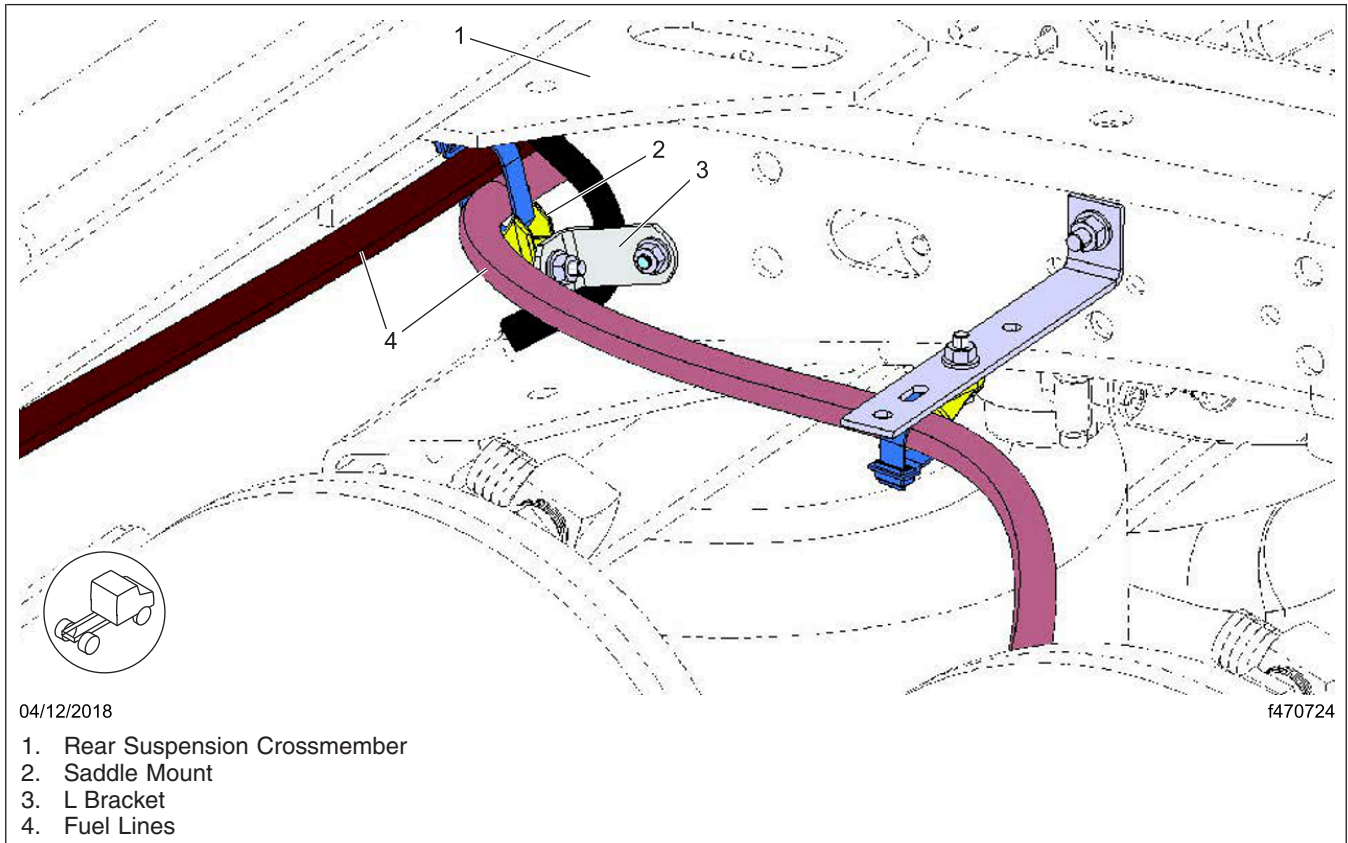

Fig. 18, L Bracket, Leaf Spring Suspension
13. Inspect the rear suspension crossmember for an L bracket and tie band mount after the rear axle. Ensure that the L bracket is oriented as shown in **Fig. 18**.